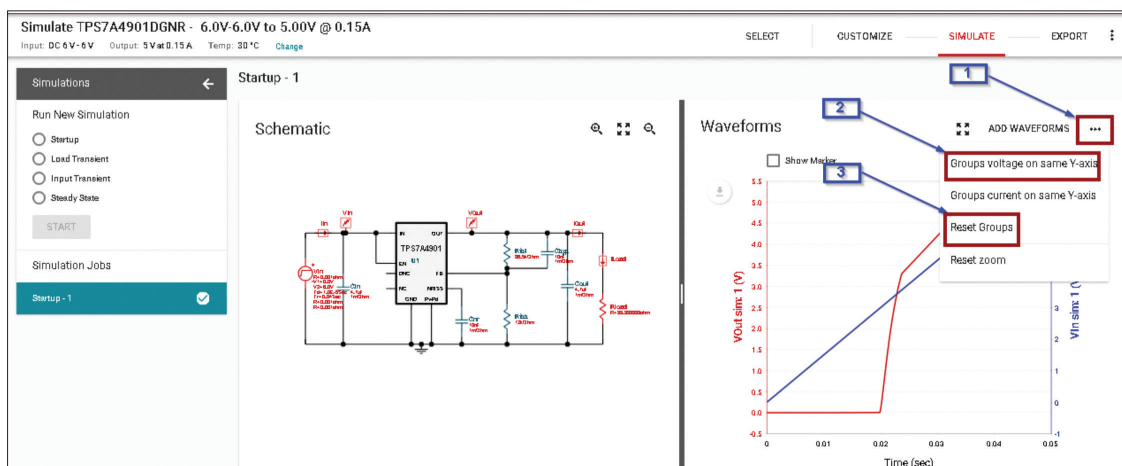

Figure 4.
5. Click on highlighted button (Step-1) in below image. The WAVEFORM Controls dropdown will appear. Click the **“Group voltage on same Y-axis”** option (Step-2) see **Figure 4**, which will force Y-axis voltage scales for  $V_{IN}$  and  $V_{OUT}$  to be the same. Then click the **‘Reset Groups’** (Step-3) option to dismiss it.
Click on the **'Cancel'** to remove the window. Click on **'START'** button to run the simulation. Once the simulation completes, your previous plot of  $V_{in}$  and  $V_{out}$  will appear from the original simulation (shown in **Figure 2**) along with new  $V_{in}$  and  $V_{out}$ . You will now see the plot for  $V_{in}$  ( $V_{in}$ ) along with the plots of  $V_{out}$  ( $V_{out}$ ) for the various load simulations. Repeat **Step 5** to group the voltages, refer **Figure 4**. Repeat **Step 6** to record the new data.